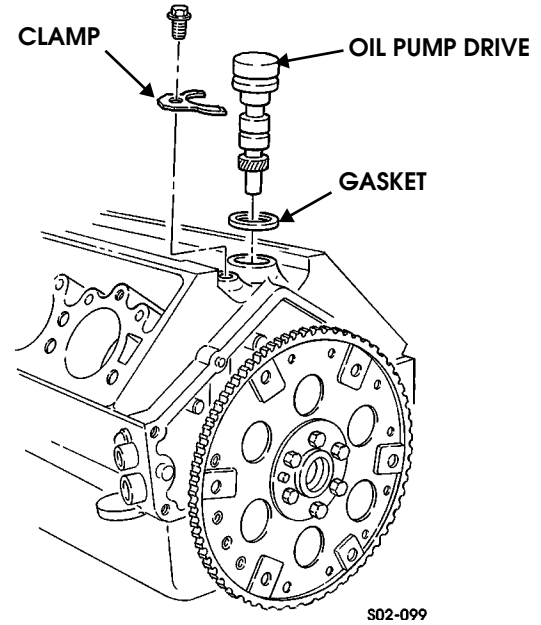

Figure 2-116: Oil Pump Drive Removal
6. Lift and remove oil pump drive from block (Figure 2-116).